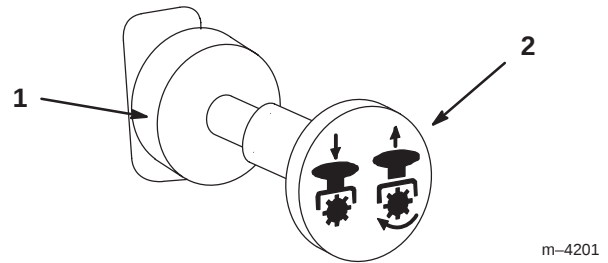

Figure 23
3. Pull out on the power take off (PTO) switch to engage (Fig. 23).
1. To disengage push the PTO switch to the off position (Fig. 23).